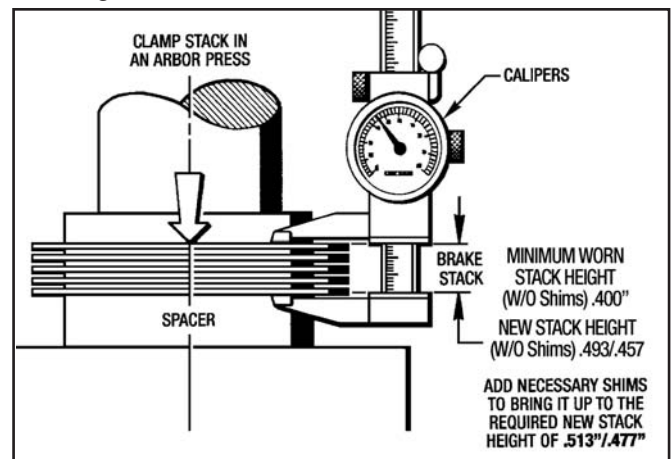

Figure 7.1 - Measuring Stack Height (MSB2)
8. Place the Brake Stack without any Separator Springs (#17), including any shims in an arbor press and measure the Worn Stack Height as described in **Section 7-4** to determine whether or not the Brake Stack needs to be replaced. (See Figure 7.1)
9. Measure the New Brake Stack with the same procedure as shown in Figure 7.1 to determine the amount of shims required. The normal shim requirement is .020\".